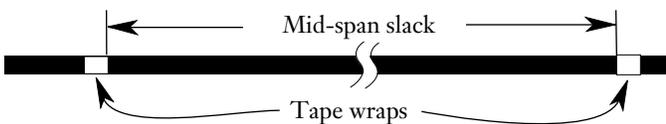

Figure 14
6.3 Determine the amount of slack needed. Place a wrap of tape at each end of the cable sheath that is to be removed (Figure 14).